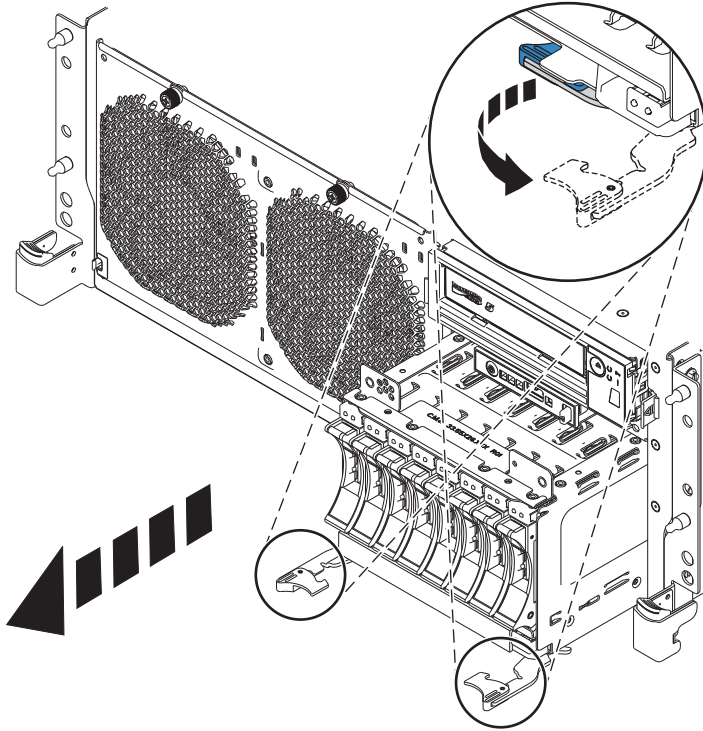

Figure 2. Removing the disk drive cage
- b. Grasp the handles and pull the disk drive cage toward you. See Figure 2 on page 8.